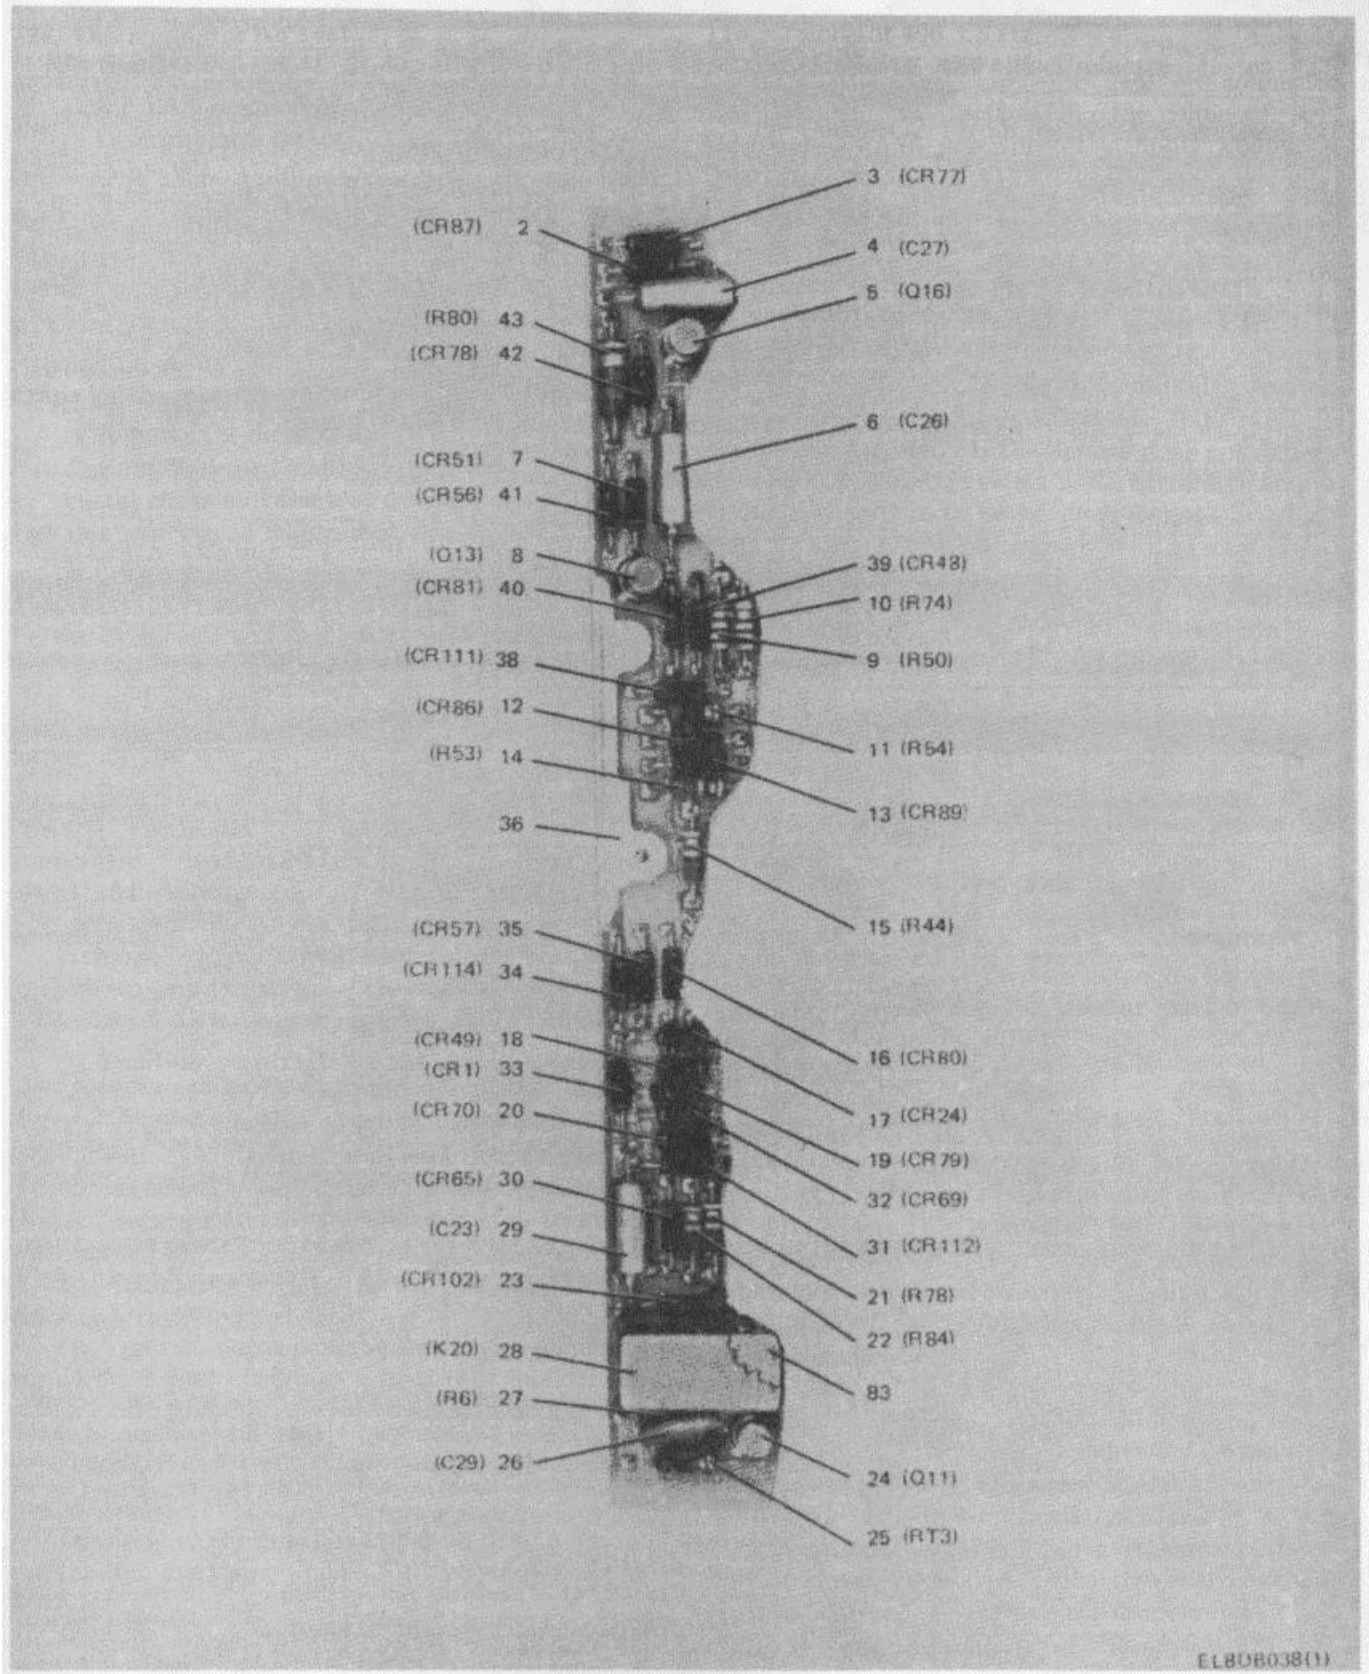

Figure 4-6.2(1). Tune Sequence Circuit Card Assembly A2A1, Parts Location (Part 1 of 2).
Legend for figures 4-6.2(1) and 4-6.2(2):